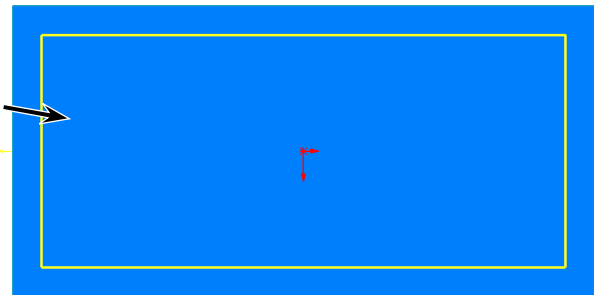

**Fig. 37**
Step 4. In the Offset Entities Property Manager set: under Parameters, **Fig. 37**